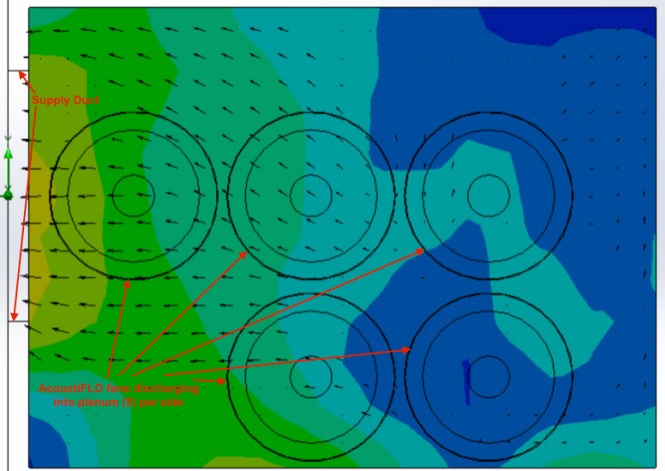

Fig. 3
To confirm aerodynamic performance, AcoustiFLO created a graphic CFD analysis of the resultant flow in the plenum with (10) fans discharging into the plenum (Fig.3).